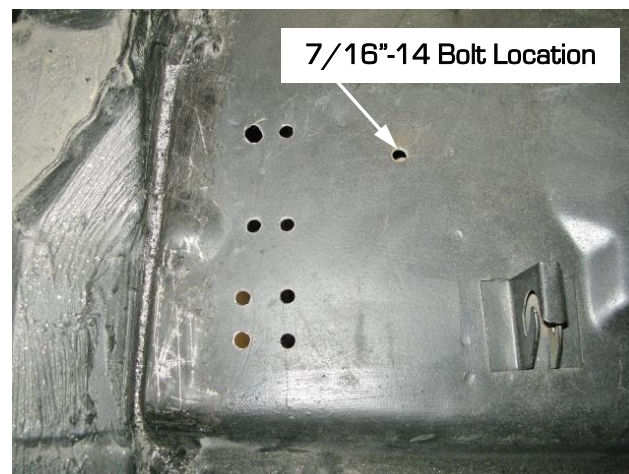

Figure 9 - Drill Remaining Holes
18. Remove the DSE pocket assemblies and floor pan doublers. Drill the seven holes for the provided six 3/8"-16 bolts and (1) 7/16"-14 x 4-1/4" L bolt (Figure 9).